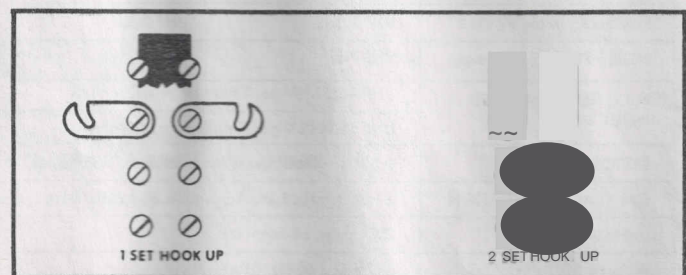

FIGURE 6 MODEL 302 TWIN-LEAD CONNECTION
2. If the signals are to be delivered to a single receiver, OPEN the links on the end of the power supply; if two receivers are to be fed, CLOSE the links. See Figure 6.
10. Refer to Figure 6, then cut one or two jumpers as required for connecting the Model 302 to either one or two TV/F-I receivers, as determined in step 2 under INSTALLING THE POWER SUPPLY.